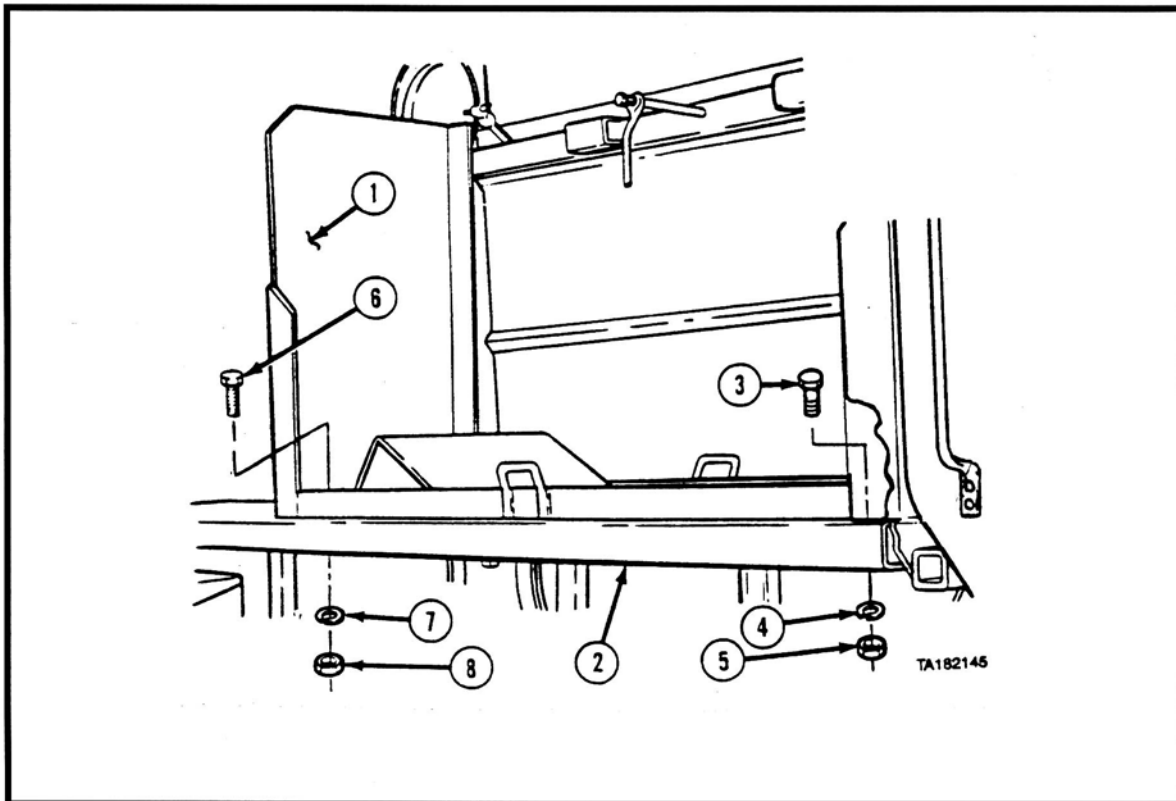

Figure 42. Re-install the Tire Carrier.
1. Position the Tire Carrier (see Item 1 in Figure 42) on the fender (2).
2. Install two screws (3), two lockwashers (4), and two nuts (5).
3. Install two screws (6), two lockwashers (7), and two nuts (8) on the tire carrier (1) and the fender (2) as shown.
4. Torque the screws (3) to 80 ft-lb.